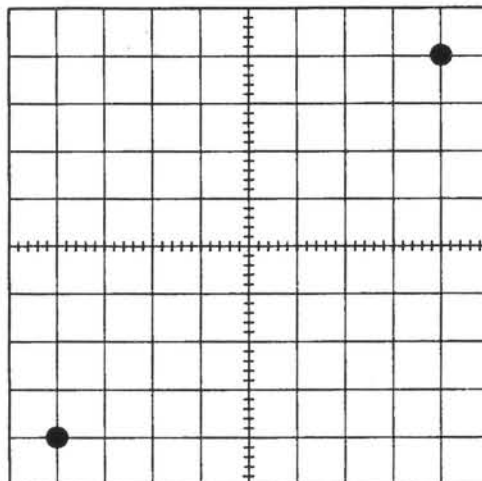

Figure 3-10. Autoscope
13. Press the AUTOSCOPE key. Verify that the display changes so it appears like the one in Figure 3-10.